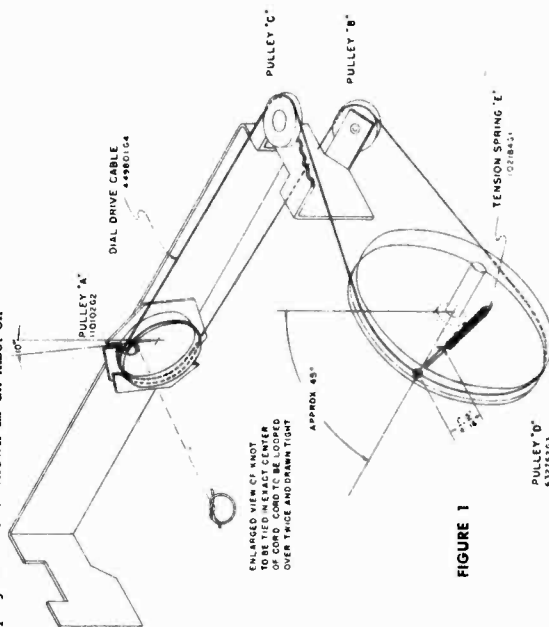

FIGURE 1
1. Remove the signal generator lead from the 6SA7 grid and connect it to the radio antenna terminal through the .00025 mfd. capacitor. The ANT-LOOP switch (89) must be in the ANT. setting.
2. Check the tuning dial pointer adjustment. When the plates of the tuning condenser are completely meshed, the dial pointer must be in line with the last calibration mark at the low frequency end of the dial. If it is not, loosen the set screws in the hub of pulley "D" shown on Figure 1 and make the necessary adjustment.
Rotate the brass pulley designated "A" in Figure 1 until the dial pointer strikes the stop at the high frequency end of the dial calibration. In this condition the slot in pulley "A" should be approximately ten degrees to the left of being vertical—see Figure 1. If the slot in the pulley is in some other position under the above mentioned conditions, the pointer set screw is probably loose and has allowed the pointer pulley "D" temporarily.